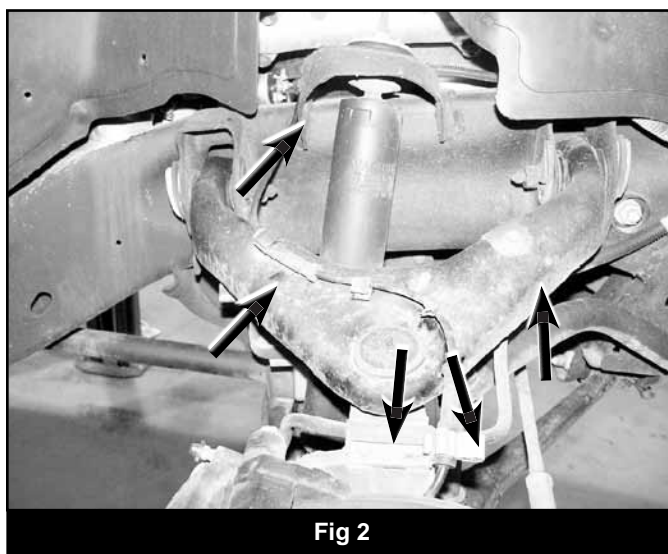

Fig 2
15. Disconnect the ABS brake wire from the frame and the control arm. Remove the brake hose bracket from the steering knuckle (Fig 2).
17. Disconnect the brake line bracket from the upper control arm by removing the retaining bolt (Fig 2). Retain the mounting hardware.